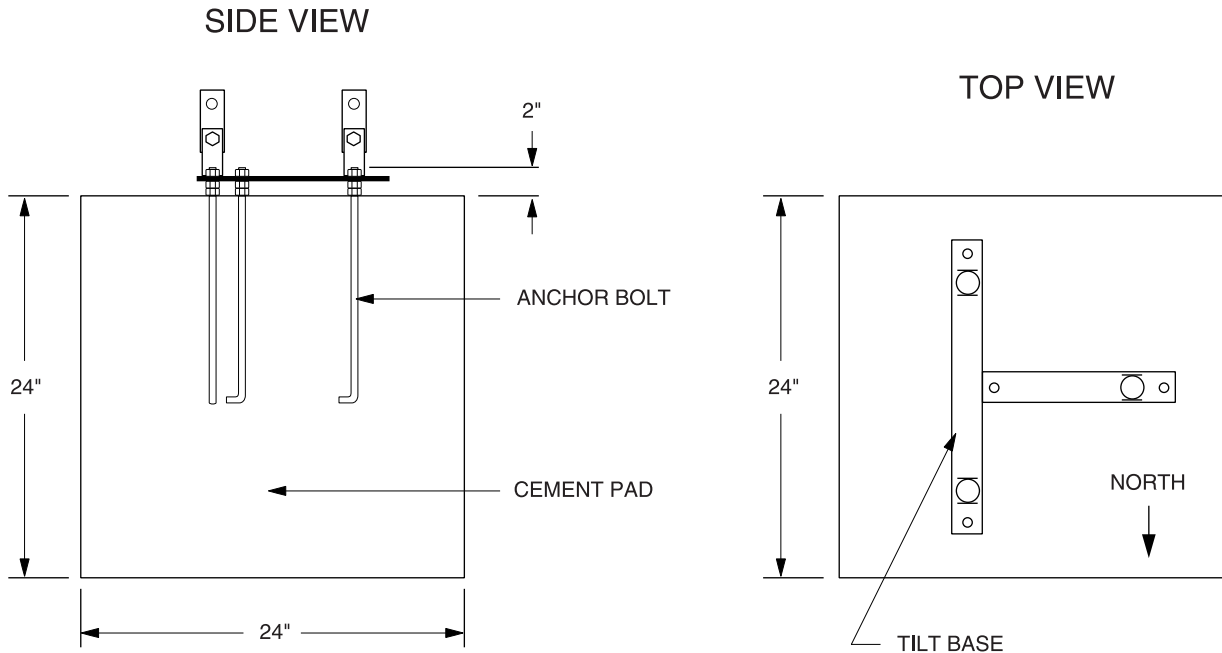

FIGURE 2.1-3. Concrete Foundation and Anchor Bolts
3. Assemble the anchor bolts and tilt base as shown in Figure 2.1-3. There should be two nuts below the base and one nut above.
4. Fill the hole and form with concrete. Screed the concrete level with the top of the form. Allow the concrete to set up enough to support the weight of the base*, then position the base (with the anchor bolts attached) over the center of the concrete foundation and press the anchor bolts into the concrete as shown in Figure 2.1-3. The bottom of the threads should be approximately 1/2" above the concrete. Level the base in both directions using a small level.